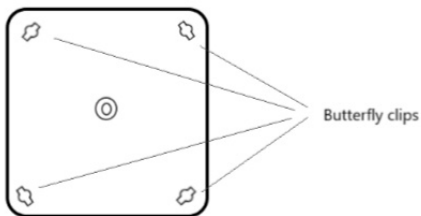

Fig. 3
- Attach the LED plate to the luminaire body by aligning the four butterfly screws on the body with the corresponding holes on the plate then turn clockwise to lock into place (see Fig. 3)